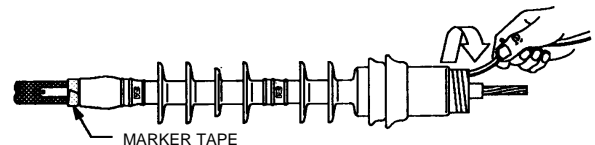

Figure 6
3. Slide the termination body onto the cable, aligning the base with previously applied marker tape (**Figure 6**).
4. Remove termination core unwinding counter-clockwise starting with the loose end. Make sure the termination body is butted up to the edge of the marker tape (**Figure 6**). TIP: An occasional tug of the core strand while unwinding will aid in core removal.